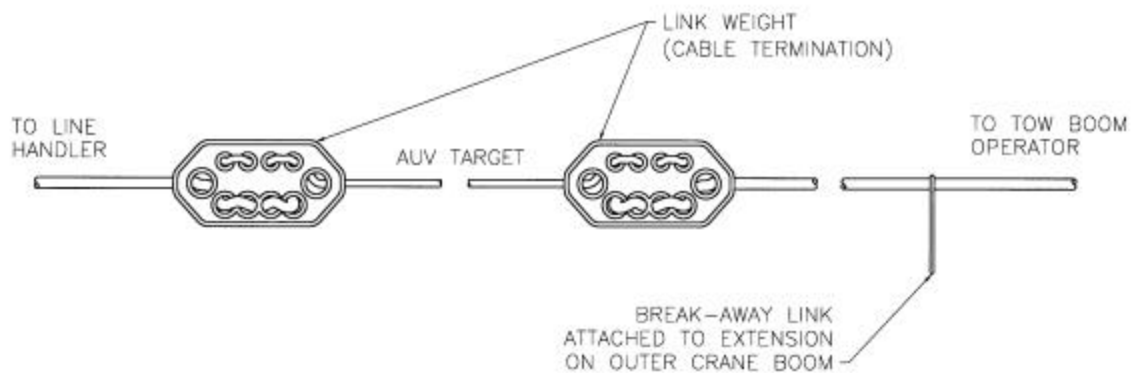

Figure 4-10 – Tow Line (Recovery Arrangement)
3. Remove the snap shackle from the tow line and attach the tow line at marked position (position to be marked at time of installation) to the break-away link located on the capture mechanism extension. Both link-weights should be outboard of the break-away link as shown in Figure 4-10. Ensure the length of tow line between the towing boom and the crane